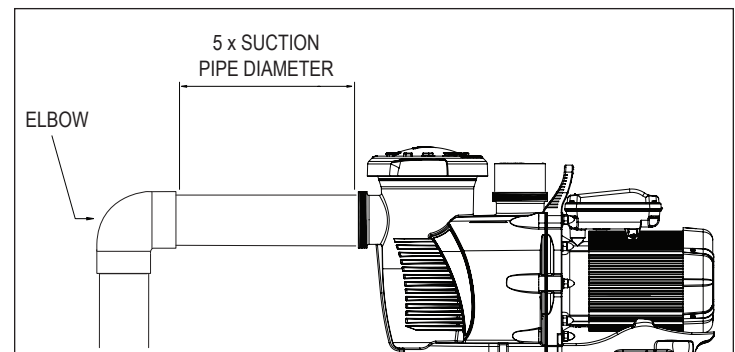

Figure 2: Recommended Piping
4. For most installations, Pentair recommends installing a valve on both the pump suction and return lines so that the pump can be isolated during routine maintenance. However, we also recommend that a valve, elbow or tee installed in the suction line should be no closer to the front of the pump than five times the suction line diameter. **See Figure 2.**